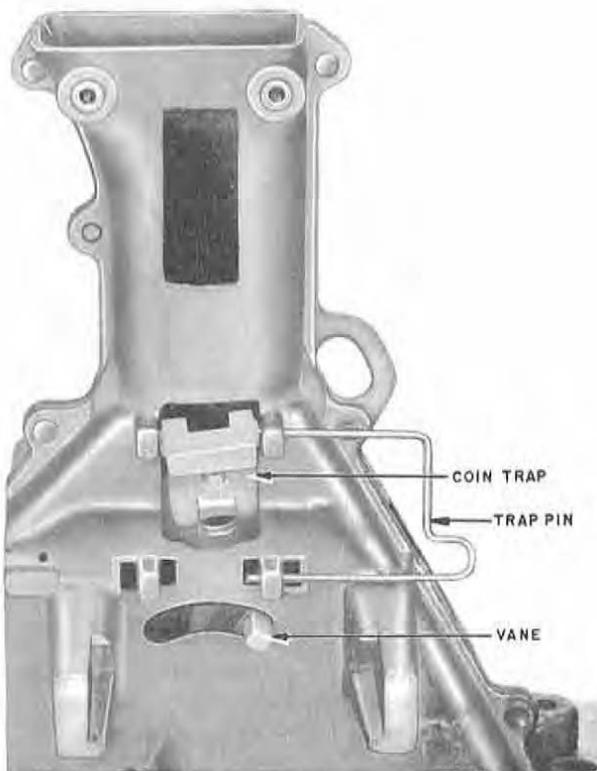

Fig. 10 — Placing Coin Trap on Hopper
- (1) Partially insert trap pin into hole in hopper.
- (2) Insert coin trap in hopper and engage pin in trap (Fig. 10).